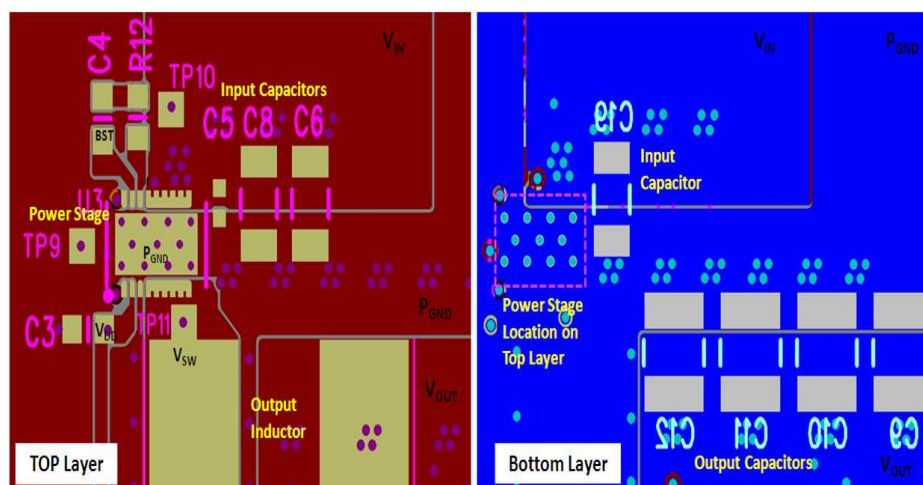

Figure 16. Recommended PCB Layout (Top Down View)
- The placement of the input capacitors relative to V_{IN} and P_{GND} pins of CSD95375Q4M device should have the highest priority during the component placement routine. It is critical to minimize these node lengths. As such, ceramic input capacitors need to be placed as close as possible to the V_{IN} and P_{GND} pins (see Figure 16). The example in Figure 16 uses 1 × 1 nF 0402 25 V and 3 × 10 μF 1206 25 V ceramic capacitors (TDK Part # C3216X5R1C106KT or equivalent). Notice there are ceramic capacitors on both sides of the board with an appropriate amount of vias interconnecting both layers. In terms of priority of placement next to the Power Stage C5, C8 and C6, C19 should follow in order.
- Use the smallest drill size allowed in your design. The example in Figure 16 uses vias with a 10 mil drill hole and a 16 mil capture pad.